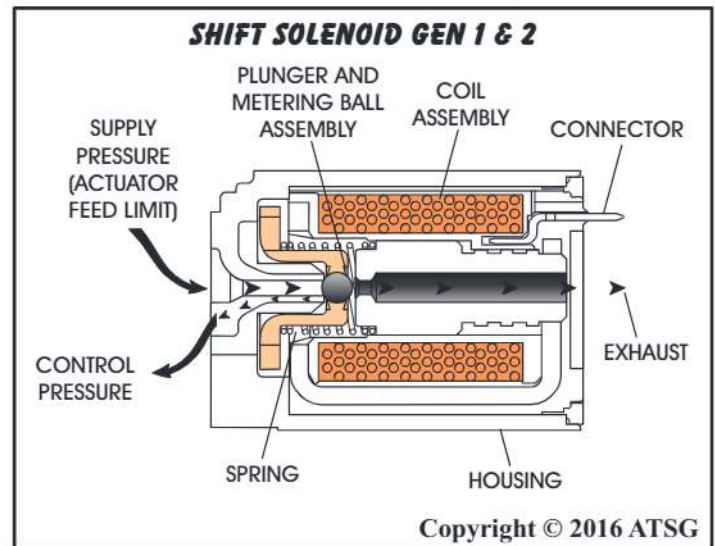

Figure 13
When the TCM provides a path to ground for the electrical circuit to energize (Turn ON) the solenoid, current flows through the coil assembly in the solenoid and creates a magnetic field. The magnetic field moves the plunger and metering ball assembly to the right, as shown in Figure 13, against the exhaust seat, thereby blocking the exhaust passage and creating solenoid control pressure.
The Shift Solenoid is de-energized (Turned OFF) when the TCM opens the path to ground for the solenoid's electrical circuit. With the solenoid OFF, solenoid spring force moves the plunger and metering ball assembly to the left, as shown in Figure 13, away from the exhaust seat and against the feed seat. This blocks actuator feed limit fluid from entering the solenoid and allows any existing solenoid control pressure to exhaust through the solenoid.
Actuator feed limit fluid feeds the shift solenoid fluid circuit to control the clutch select valve. When the shift solenoid is energized (ON), actuator feed limit fluid is allowed to pass through the solenoid, thereby creating solenoid control pressure, as shown in Figure 13. Solenoid control pressure acts against clutch select valve spring force, to move the valve to the apply position.
When the shift solenoid is de-energized (OFF), actuator feed limit fluid is blocked from feeding the shift solenoid circuit, and any existing solenoid control pressure exhausts through the solenoid, as shown in Figure 13.